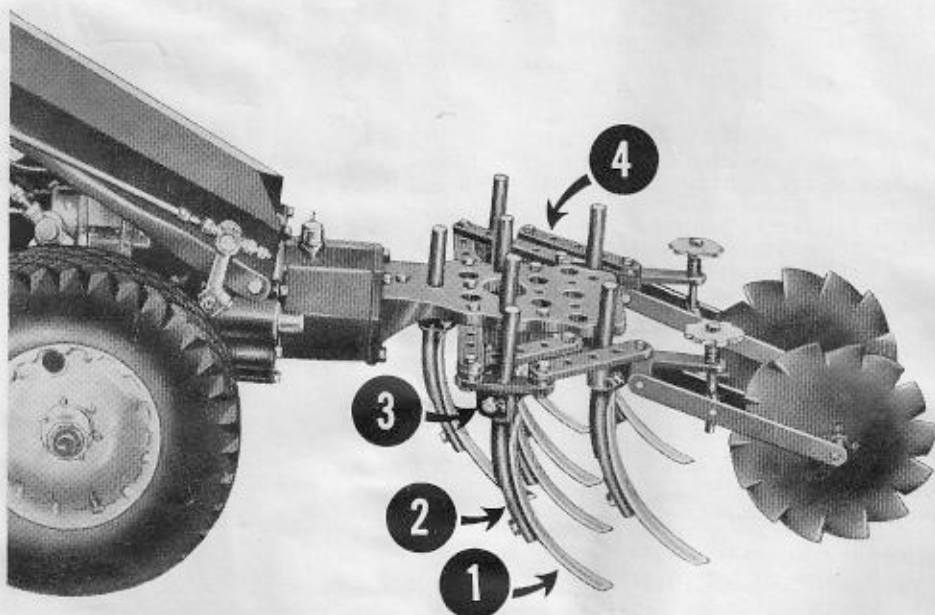

Figure 34
The Cultivator Tool Holder, shown in Figure 34, can be used to hold a variety of cultivating tools. The most common set-ups of cultivating tools in the Tool Holder are shown on the opposite page.
**ATTACHING TOOLS TO TOOL HOLDER.** The individual cultivating tool, 1 in Figure 34, is attached to a Shank, 2 in Figure 34, which in turn is attached to the Tool Holder by a Shank Holder, 3 in Figure 34.
**PARALLEL BARS.** The Parallel Bars, 4 in Figure 34, can be adjusted in several ways, depending on the task. Usually it is necessary to detach the Bars from the Depth Wheels to make these different set-ups.
**FIVE-STEEL SET-UP** is the standard arrangement; 1¼-inch wide Steels are used. Figure 34 shows a slight modification of this set-up, in which seven Steels are used. Steels are available in 1¼, 1¾, and 2¼ inch widths; standard length of the Steels is eight inches.